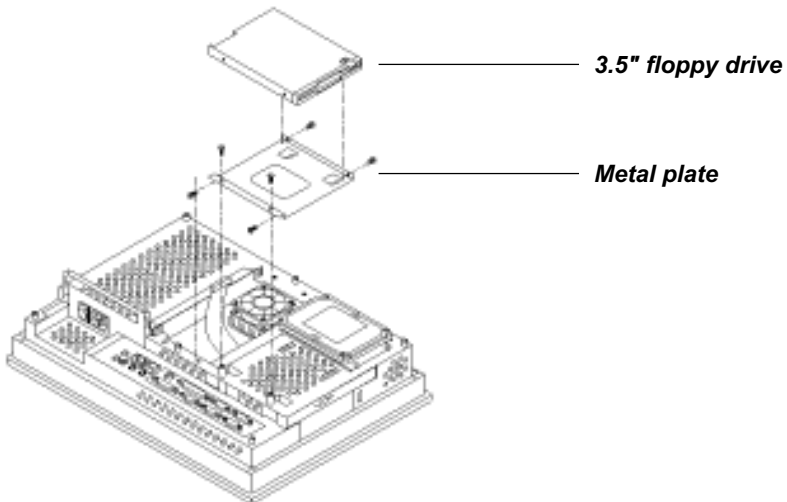

Figure 4-5: Installing the FDD
2. There is a metal plate for holding the FDD on the right side of the shielding case. (See Fig. 4-5.) Unscrew the two screws on the upper side of the metal plate.